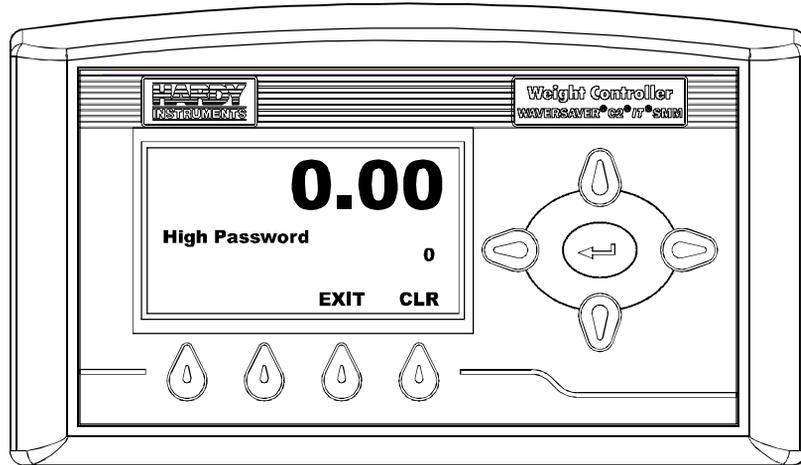

FIG. 279 HIGH PASSWORD DISPLAY
- Step 3. Press the Enter button. The High Password display appears. (See Fig. 279) The present password setting is displayed.